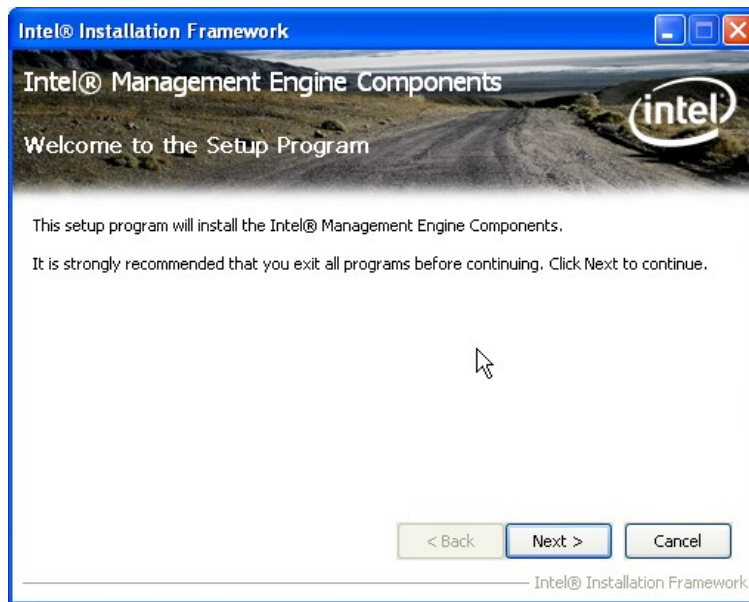

Figure 6-29: Intel® ME Driver Welcome Screen
Step 5: When the setup files are completely extracted the **Welcome Screen** in **Figure 6-29** appears.